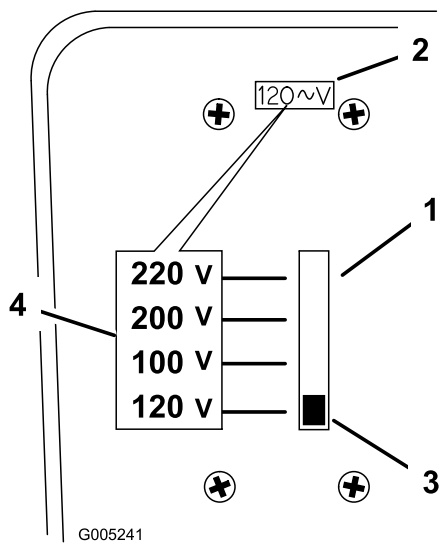

Figure 7
1. Locate the voltage selector on the rear of the charger (Figure 7).
2. Adjust the voltage setting by moving the switch on the voltage selector upward or downward to change the voltage setting (Figure 7).